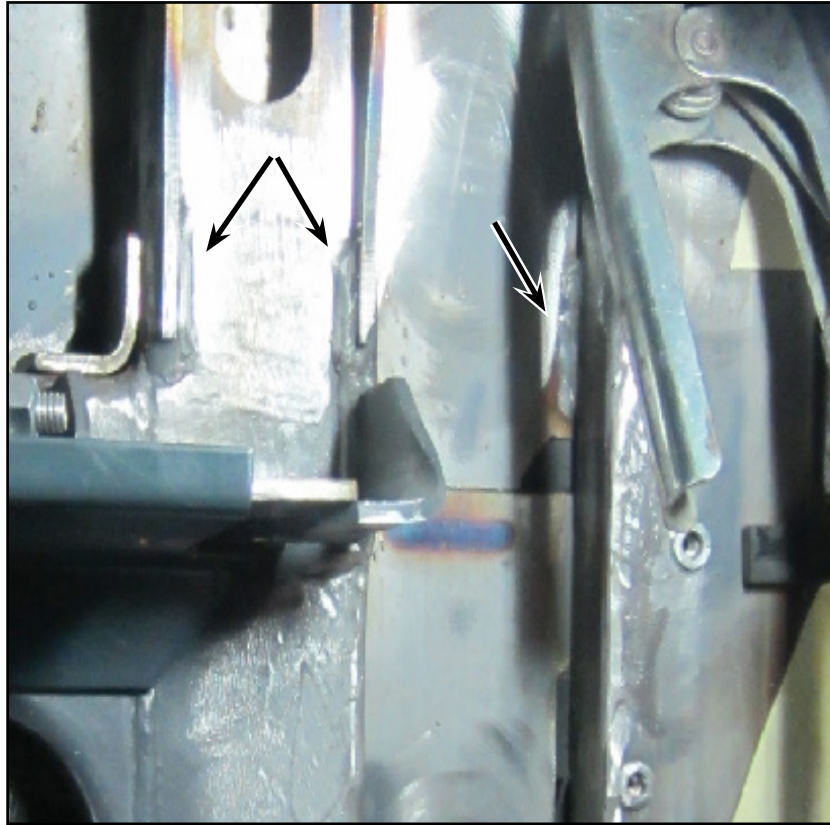

Figure 10 - Examples of Weld Beads that May Need to be Ground (Not Limited to These)
- 1.21. If there are existing protruding bumps greater than 1/16 in. from the existing weld beads, grind them flush with the weld bead. The weld on the existing structure should not be more than 1/2 inch, if it is, it should be ground down to ensure that the maximum of 1/2 inch is respected. The minimum weld size to respect shall remain equivalent to the thickness of the plate being welded and respecting a maximum weld size of a 1/4 inch. See Figures 10 and 11
- 1.23. A 1/8 in. gap is required between N71119 and the existing weld on the structure, grind if necessary. Press fit is not acceptable. See Figures 10 and 13.